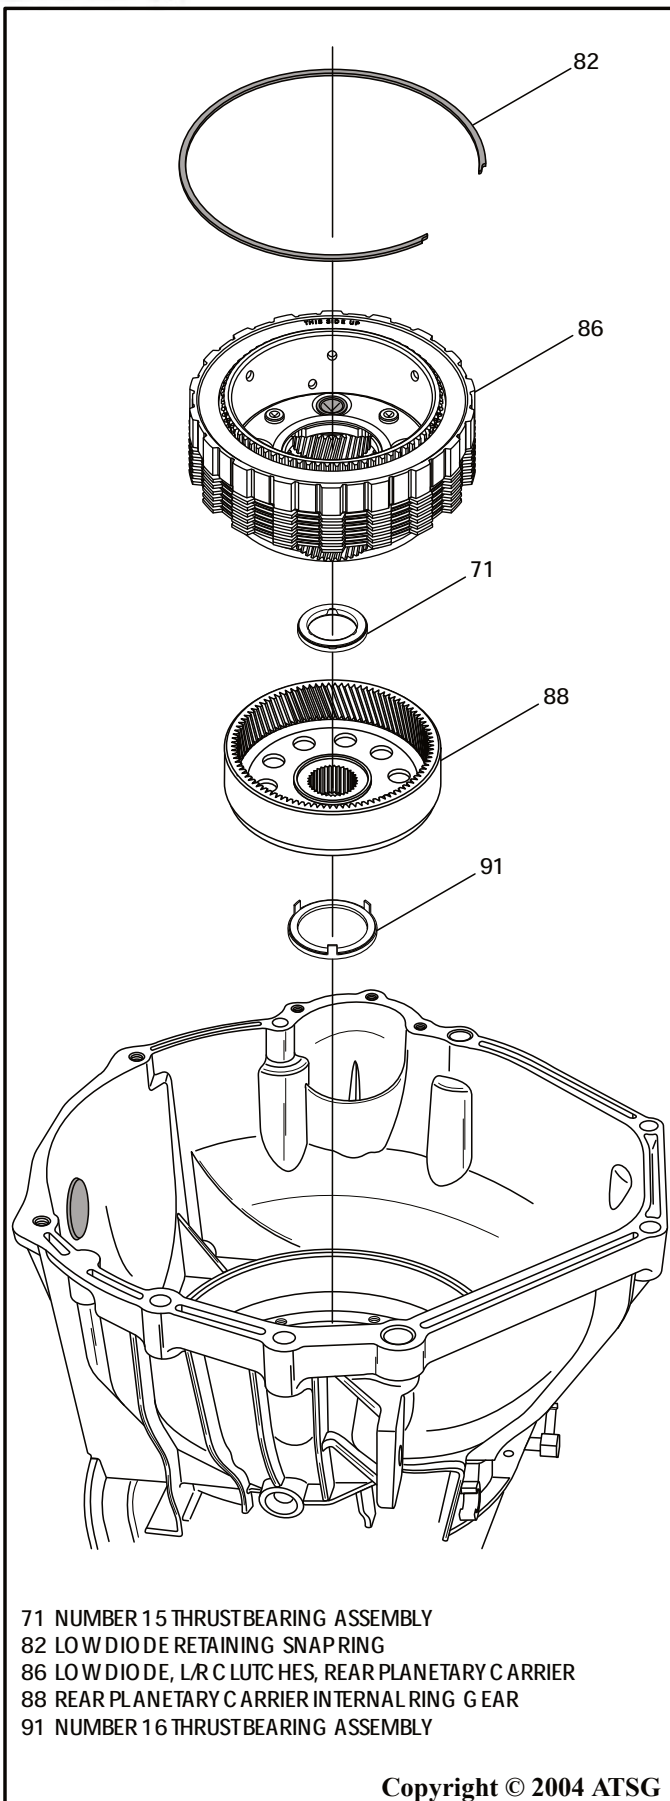

Figure 47
48. Remove the low diode retaining snap ring from the case groove (See Figure 47).
49. Remove the low diode, low/reverse clutch pack and rear planetary carrier as an assembly, as shown in Figure 47.
50. Remove the rear carrier to rear ring gear thrust bearing (Number 15), as shown in Figure 47.
51. Remove the rear planetary ring gear assembly and the number 16 thrust bearing, as shown in Figure 47.